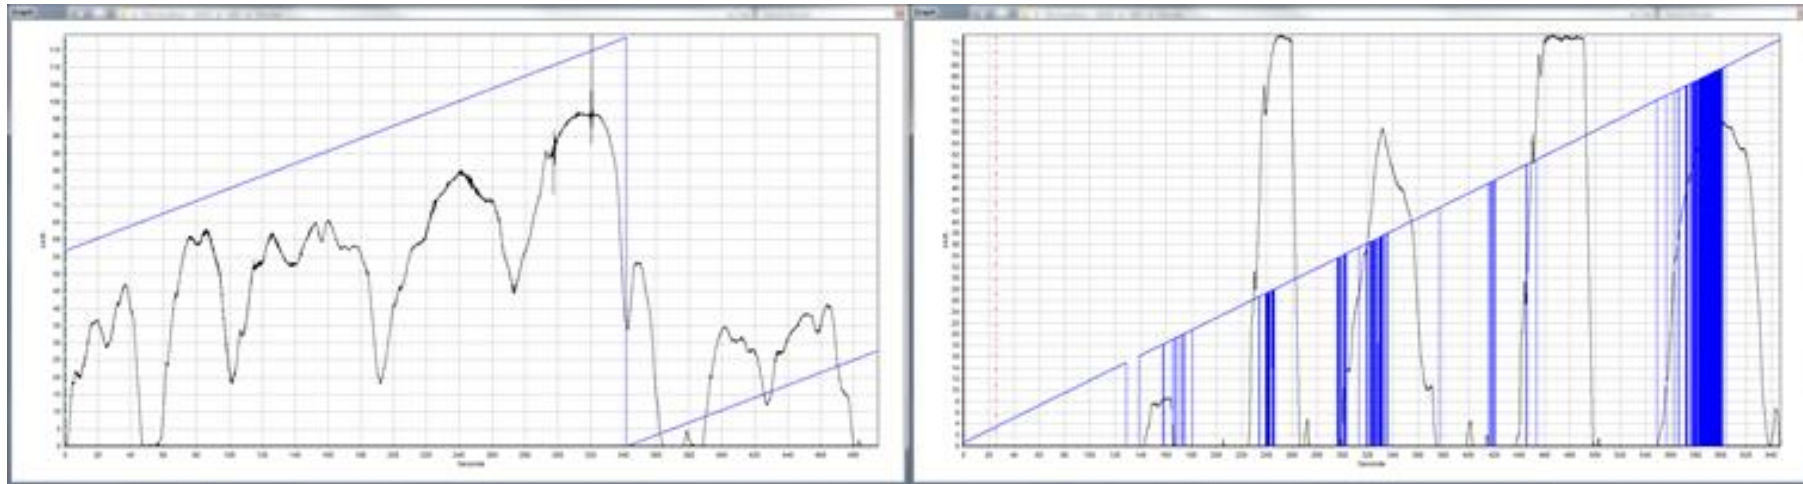

Figure 6: Comparison of good Link Time data (left) with poor Link Time data (right)
3. To test the stability of the ADAS modem link monitor the “Link Time” channel within VBOX tools. A good link will show a trace incrementing every 10mS with no drops to zero. Figure 6 shows good and poor ADAS modem link quality.
However, if the dropouts look excessive like in the right hand screen shot of Figure 6 then the things to check if the link time is poor are: